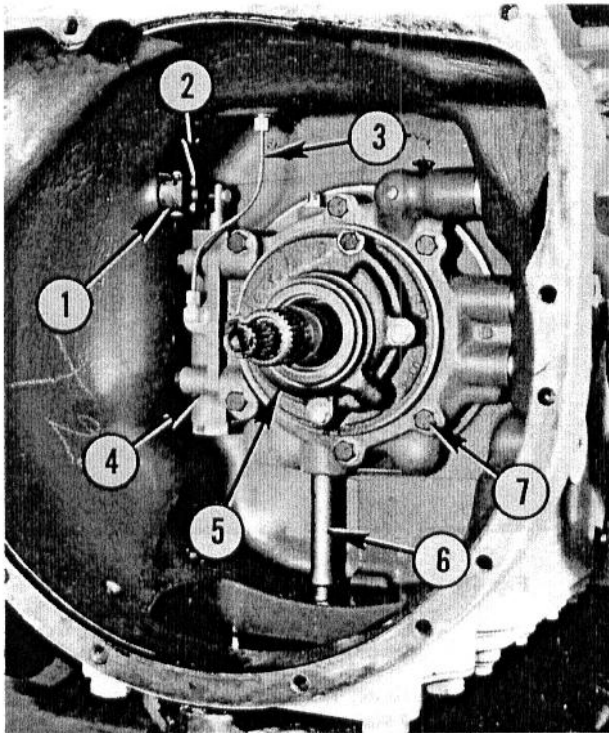

Fig. 17 - Oil Manifold, Pump and Valve Linkage
1. Disconnect and remove the control valve linkage from the right side of the transmission as follows . . . see Fig. 17:
3. Disconnect the small copper line going from the manifold to the pressure check outlet. See Fig. 17.